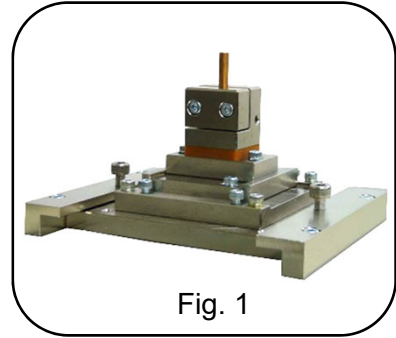

Fig. 1
- (1) Remove the safety cover.
- (2) Adjust the depressurization knob of the regulator to make the air pressure 0 MPa.
- (3) Place a weldment (hereinafter referred to as workpiece) or something of the same thickness (gauge, etc.) between electrodes.
- (4) Lower the pressure follow-up mechanism by self-weight and make the end of upper electrode contact with the welded surface of workpiece. (Refer to Figure 1.)
<p>XYθ holder (precision type lower electrode holder with a water cooling hole)</p> <p>(Refer to Fig. 1.)</p>	<p>Like the slide holder, this holder is used at direct welding.</p> <p>The XYθ (vertical/horizontal/inclination) directions can be finely adjusted. As an electrode diameter, φ3, φ5 or φ8 can be selected.</p>